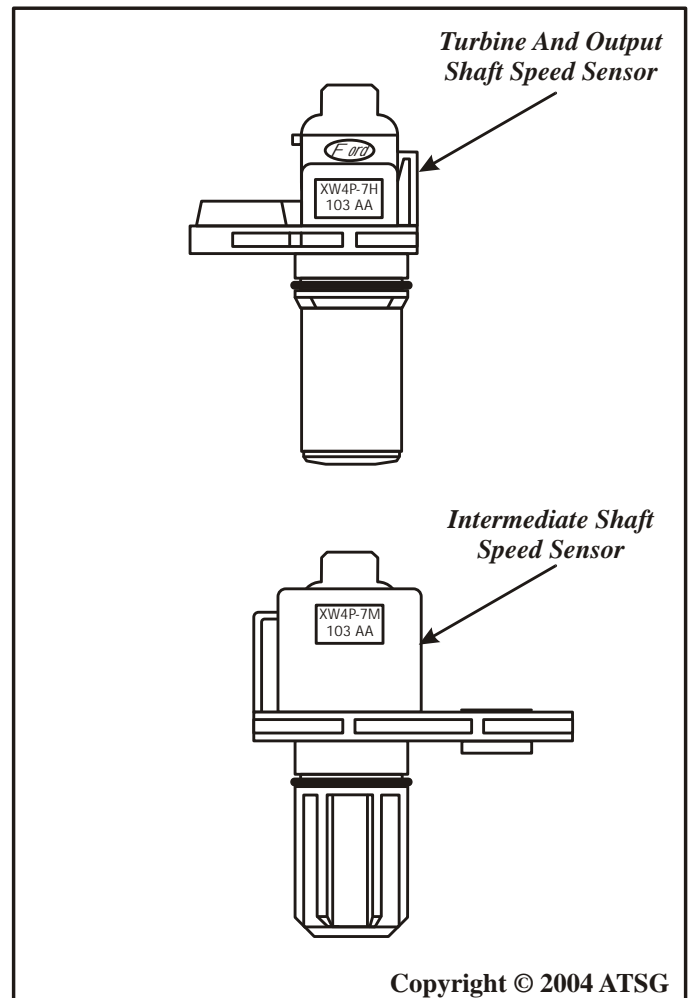

Figure 24
3. The Turbine and Output sensors are exactly the same part number. Refer to Figure 24 for the differences between them, and the Intermediate shaft speed sensor.